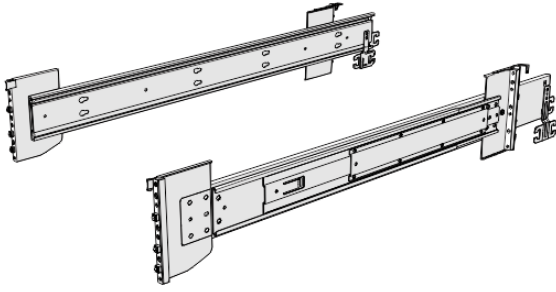

Figure 45. Support rails
1. Locate the hardware that is used to install the rails, including the M4xL6 and M5xL13 screws. Set the hardware, which is shown in Figure 45 on page 82, aside for use later in the installation process.